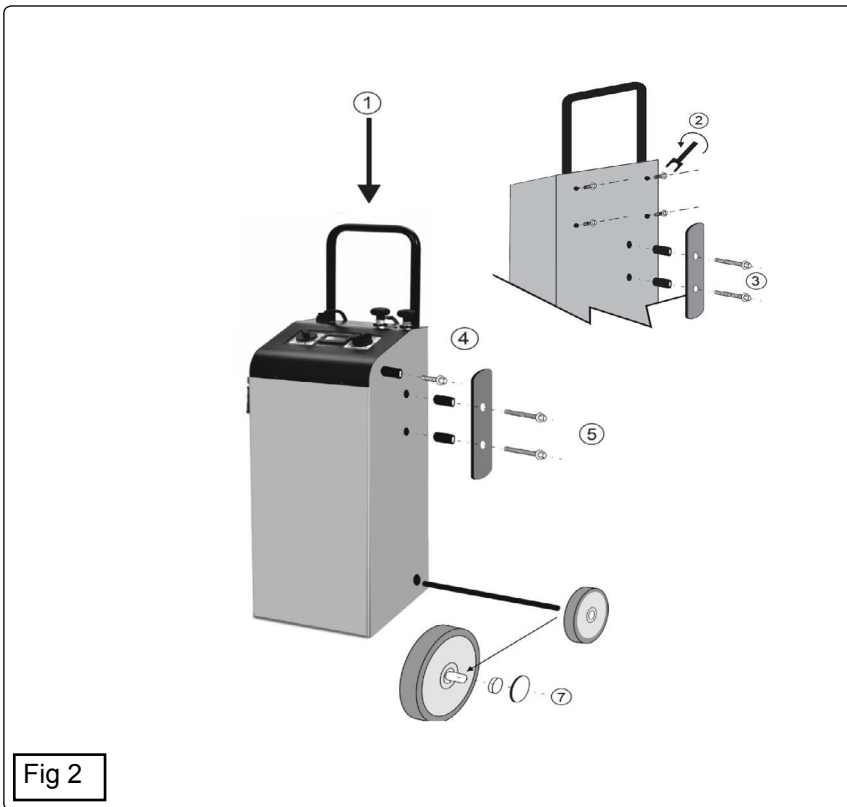

Fig 2
- 4.2. Slide the axle through the casing at the bottom back corner. Attach the wheels using the fittings provided as indicated in fig.2.